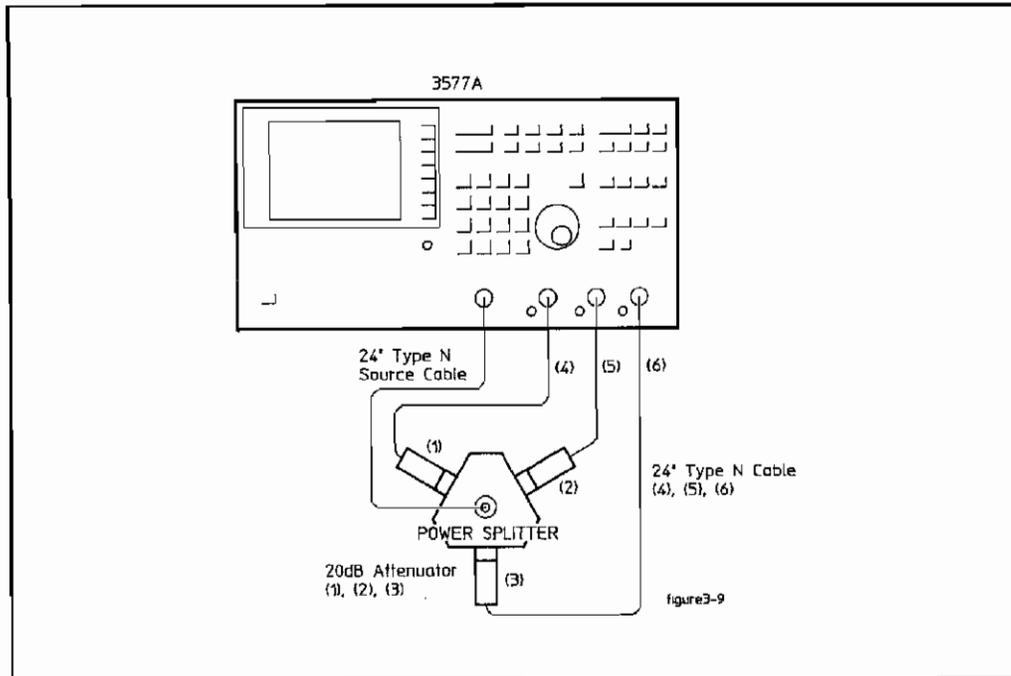

Figure 3-9 Receiver Power Splitter Calibration
- h. Connect the equipment as shown in Figure 3-9, connecting the cable used in steps a through g between the 3577A source and the power splitter input.